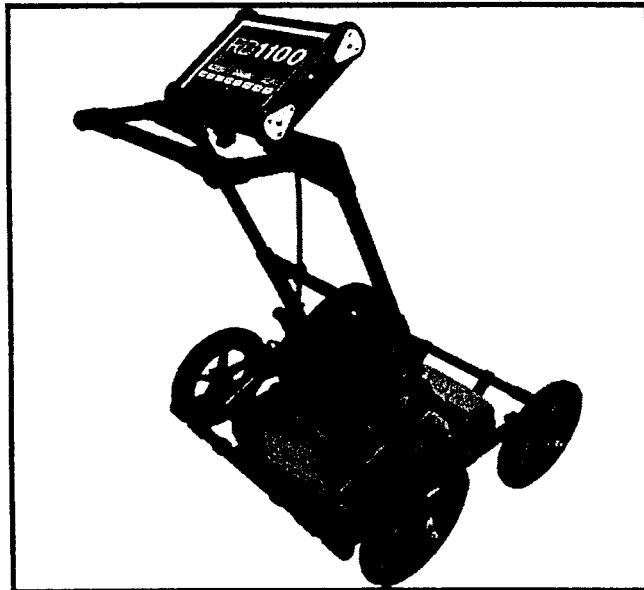

Figure 1(b) / *Rajah 1(b)*
- (b) Based on **Figure 1(b)**, identify the instrument used for this utility survey works and describe briefly **THREE (3)** main components and their function for this equipment.
*Berdasarkan **Rajah 1(b)**, kenalpasti alat yang digunakan bagi kerja ukur pengesanan utiliti dan terangkan secara ringkas **TIGA (3)** komponen dan fungsi bagi alat tersebut.*